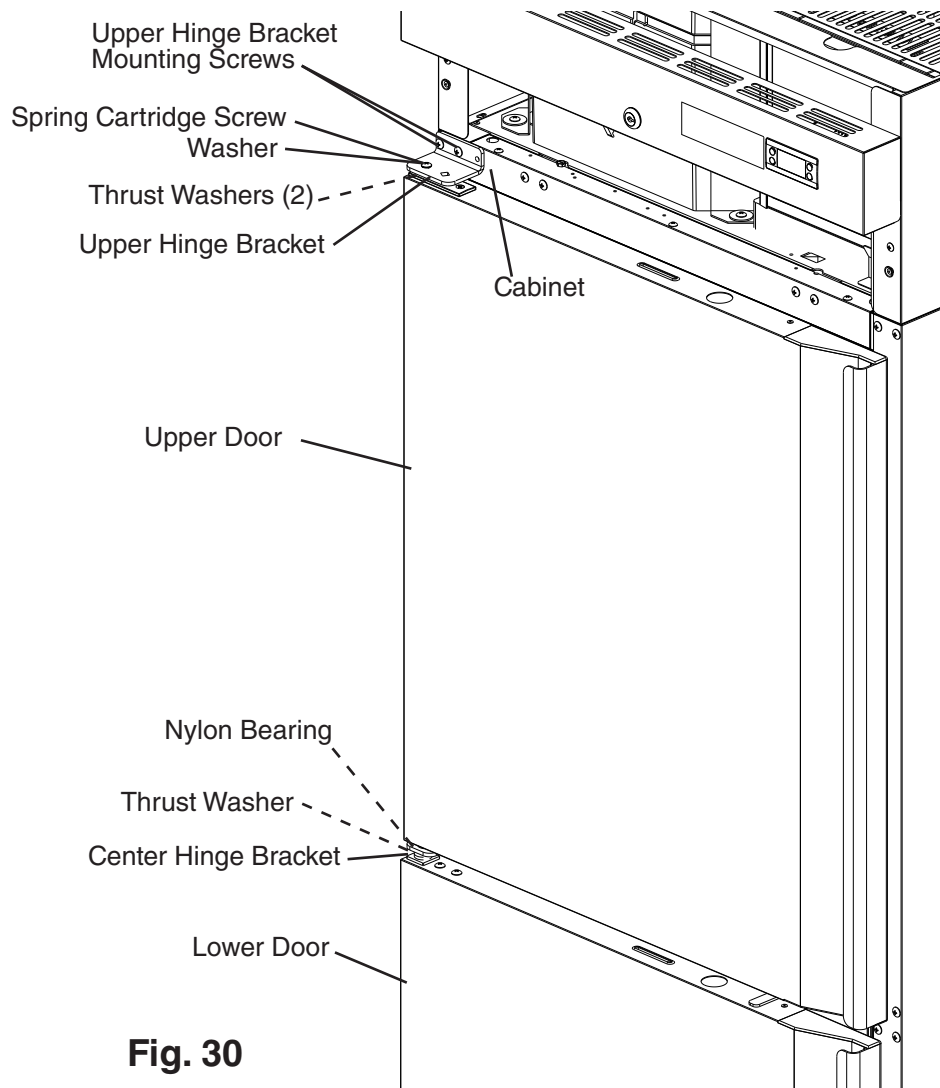

Fig. 30
- 18) With the door in the closed position, place the upper doors nylon bearing onto the center hinge bracket upper pin, then secure the upper hinge bracket to the cabinet with the upper door in the closed position. See Fig. 30.